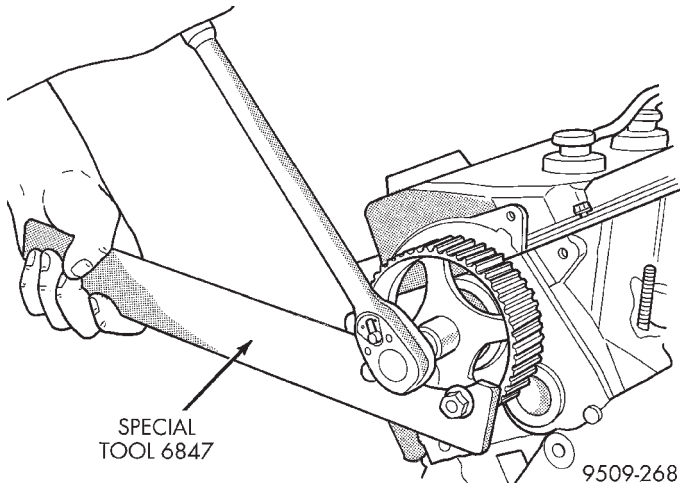

Fig. 59 Camshaft Sprockets—Removal and Installation
- (1) Hold camshaft sprocket with Special Tool 6847 loosen and remove bolt and washer (Fig. 59).
- (2) Remove camshaft sprocket from camshaft.
- (1) Place camshaft sprocket on camshaft.
- (2) Install bolt and washer to camshaft. Using Special Tool 6847 hold camshaft sprocket and torque bolt to 88 N·m (65 ft. lbs.) (Fig. 59).